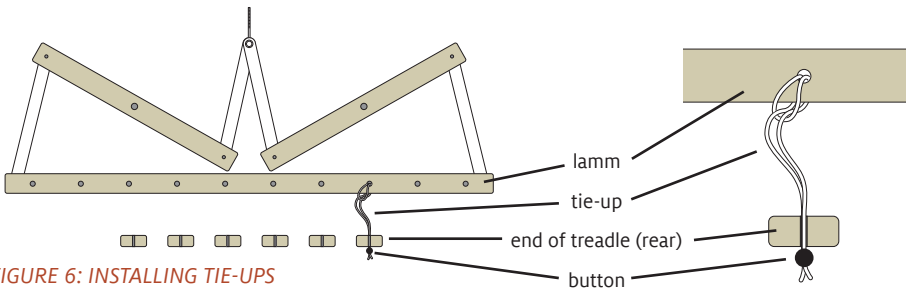

FIGURE 6: INSTALLING TIE-UPS
13. There is one tie-up for every lamm hole. Loop one end of each tie-up through a hole in the lamm (Figure 6).